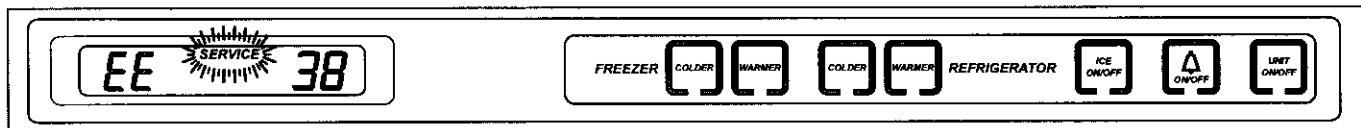

Figure 3-30. 700TC/I-3 & 736TC/I-3
- For Models 700TC/I-3 and 736TC/I-3, See Figures 3-30 through 3-36